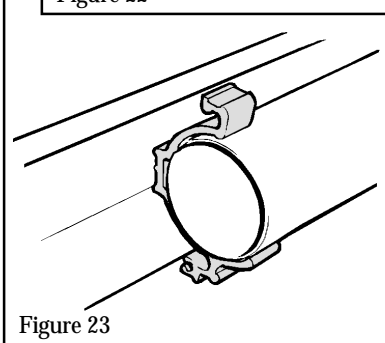

Figure 23
8.8 Place the flue ducts in position. Fit the bridging tube over one of the ducts. Locate the ducts to the "Z" coupling, flue box and, if applicable, elbows. The flue ducts snap into the plastic support brackets (see figure 23).